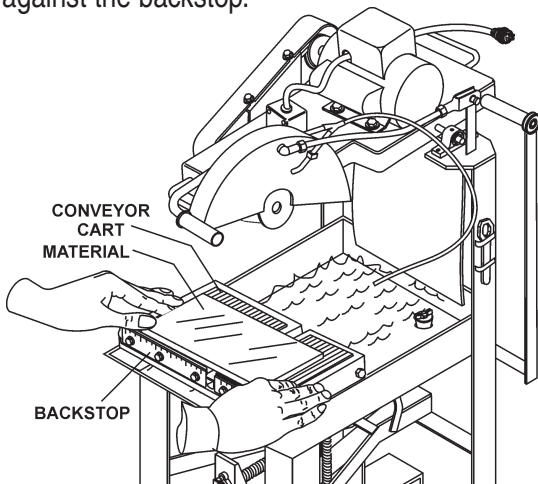

Figure 25. Material Placement
9. Avoid overloading the engine when cutting. In the event that the engine becomes overloaded, turn the engine **ON/OFF** switch to the **OFF** position (Figure 25) and allow the engine to **cool** before attempting to restart.
2. Turn the engine **ON/OFF** switch to the **OFF** position (Figure 25).
2. Place the material to be cut (Figure 25) on the conveyor cart against the backstop.
1. Place the material to be cut (Figure 25) on the conveyor cart against the backstop.